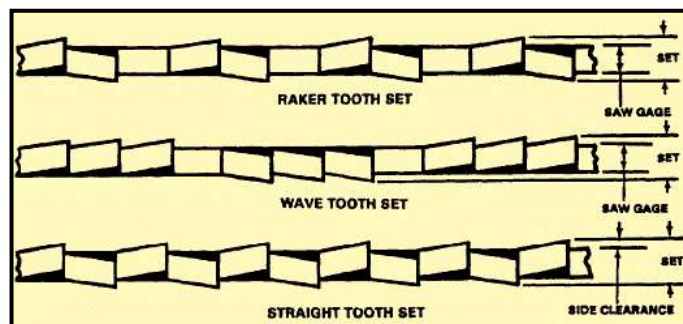

Figure 6-4. Set patterns
On some blades only the teeth are hardened, leaving the body of the blade flexible. Other blades are hardened throughout. The set is the amount of bend given the teeth. The set makes it possible for a saw to cut a kerf or slot wider than the thickness of the band back (gage), thus providing side clearance. This is the pattern in which the teeth are set. There are three set patterns: raker, wave, and straight, as shown in Figure 6-4.
**Materials:** Bandsaw blades are made from special alloy steels. The blades are made flexible by annealing the body of the blade and hardening only the teeth. Metal cutting bandsaw blades have their teeth bent (Figure 6-4). This bend produces a kerf slightly wider than the thickness of the blade, which prevents the blade from being pinched by the stock. There are three set patterns: raker, wave, and straight, as shown in Figure 6-4.